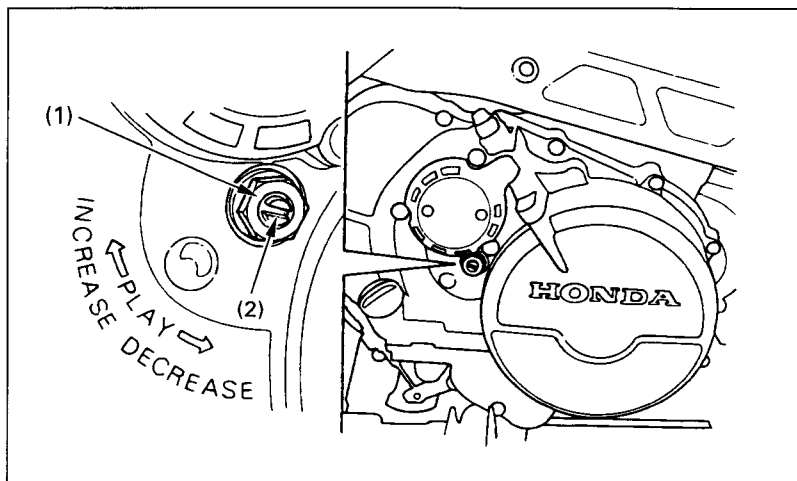

Fig. 4-19 (1) Lock nut
2. Loosen the lock nut (Fig. 4-19), and turn the clutch adjuster (2) counterclockwise until you feel slight resistance.